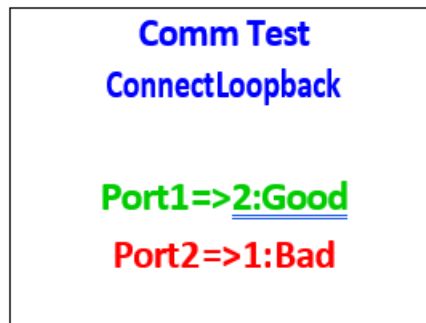

Figure 11-5 – Serial Ports Diagnostics Menu
3. The screen will then display a Good or Bad status report as shown in Figure 11-5.